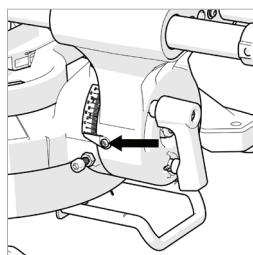

Fig. 15
- Loosen the Bevel Pointer screw using a #2 Phillips screwdriver. (Fig. 15)